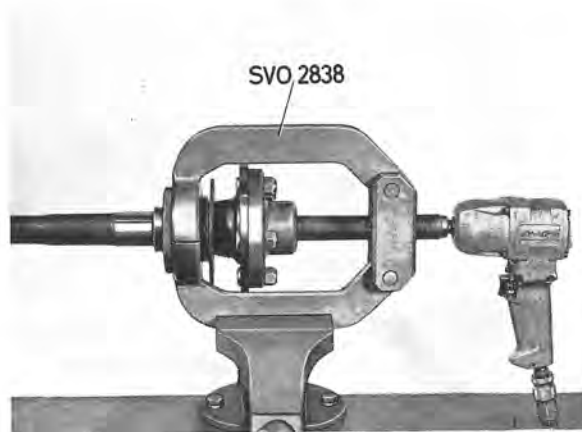

Fig. 4-138. Removing drive shaft bearing
4. Secure press tool 2838 in a vice. Secure the drive shaft to the spindle plate. Screw in the spindle so that the tool arms can be placed against the bearing, see Fig. 4-138. Screw out the spindle and press off the bearing and lock ring. Remove the oil seal.